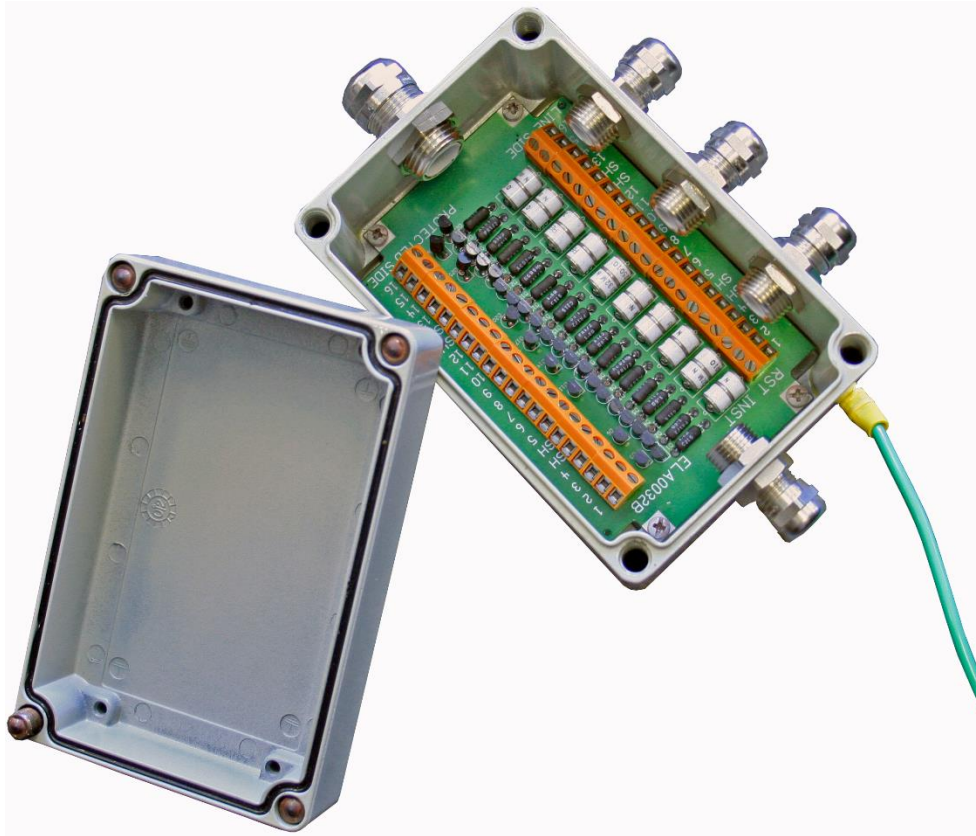

FIGURE 1-2 16N: 16-WIRE AND SHIELD STAND-ALONE SURGE PROTECTOR
- A 16-wire and shield stand-alone transient protector in a NEMA-4X enclosure (Figure 1-2).